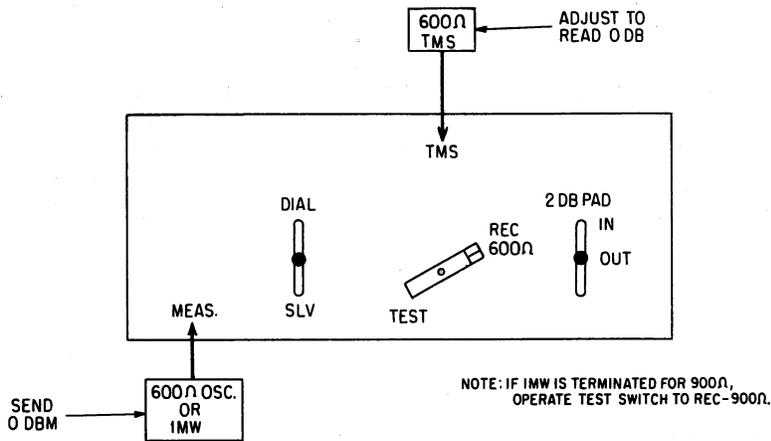

Fig. 7 - 2AB Set Calibration
5.01 The accuracy of the associated test equipment should be periodically checked to insure proper operation. Figs. 7 and 8 illustrate 2 methods for calibrating the 2AB set and associated test equipment. The method illustrated by Fig. 7 is preferred since it more accu-